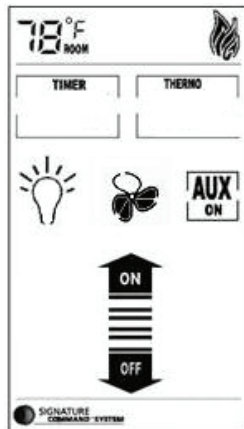

Figure 67
**Blower Speed Control (Figure 67)**